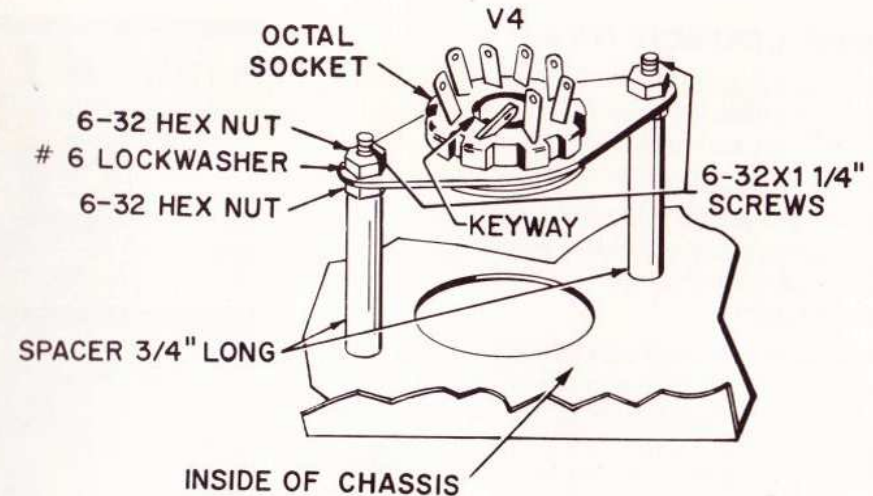

FIGURE 3
- ☑ 8-pin tube socket for V4 (largest socket) and two 3/4" spacers. See Figure 3. From the top of the chassis, insert a 6-32 x 1 1/4" screw through each of the mounting holes. Place a 3/4" spacer and a nut over each of the screws. Then place the tube socket over the screws so the keyway points toward the back of the chassis. Loosely fasten with two #6 lockwashers and nuts.